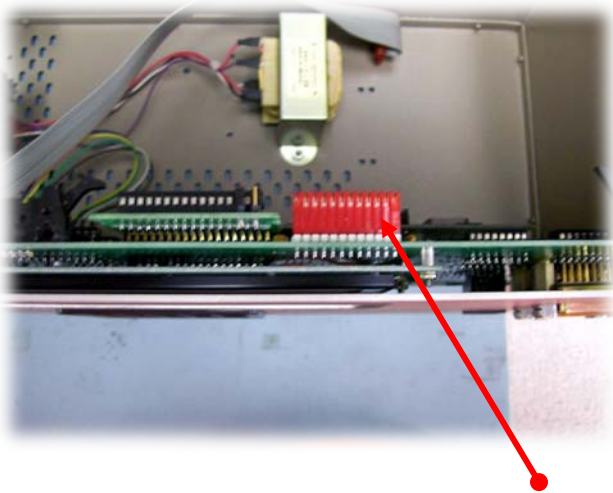
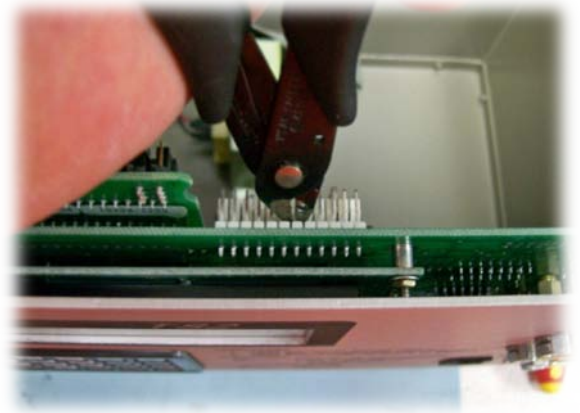
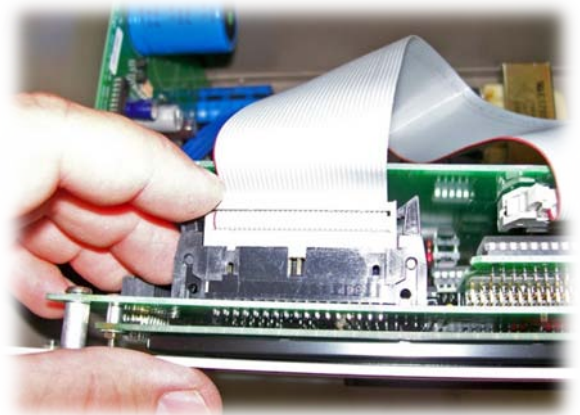

Figure 5a: Red power connector
Figure 5b: Cutting 7th pin on new face plate for TS 2-1 Type controller installation.
Figure 5d: Main board ribbon connected on new face plate for TS 2-2 Type Controller.
5) If the CPU (face plate) is installed on a TS 2-Type 1 controller, follow figure 5a, 5b, and 5c by removing the red cover (see figure 5a) from the power connector and cut the 7th pin from left to right (see figure 5b) and plug in the power ribbon cable. If the CPU (face plate) is installed on a TS 2-Type 2 controller go to figure 5d and reconnect the main ribbon cable.